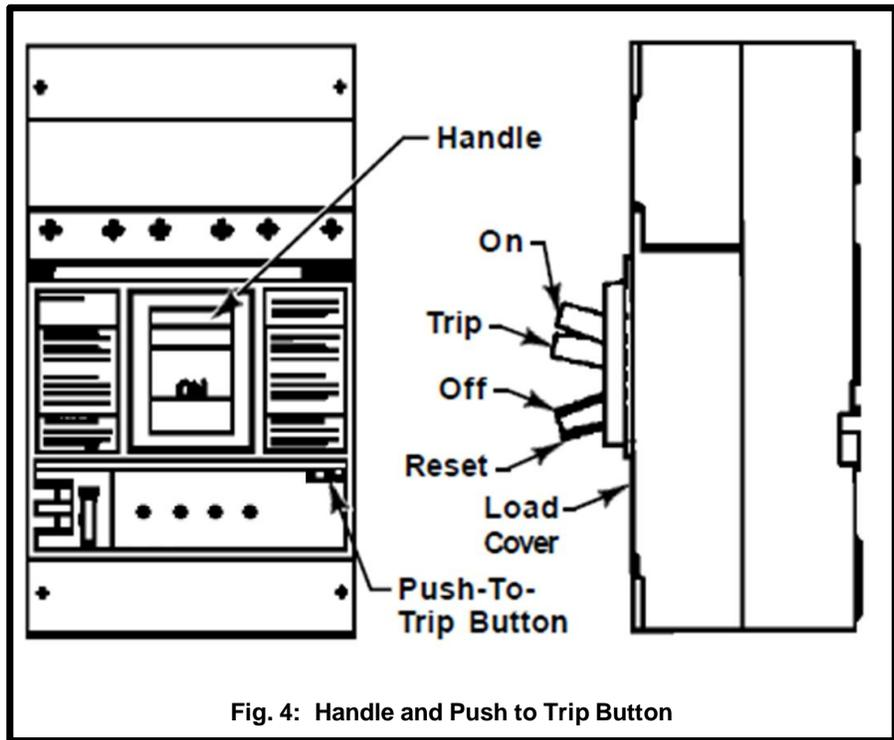

Fig. 4: Handle and Push to Trip Button
- C. Depress the red trip button (See Fig 4) or turn the breaker off before installation.
Manual operation of the circuit breaker is controlled by the circuit breaker handle and the PUSH-TO-TRIP button. The circuit breaker handle has three indicating positions, two of which are molded into the handle to indicate ON and OFF. The third position indicates a TRIP position and is between the ON and OFF positions. (See Fig. 4)